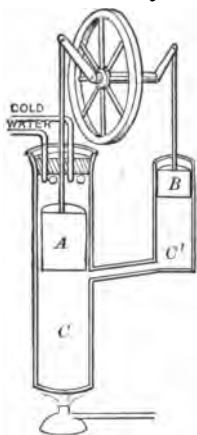

FIG. 158. — Diagram of hot-air engine.
**179. Hot-air engine.** An interesting application of the expansion of gases is the hot-air engine. Its operation can be best understood by studying figure 158. A loosely fitting plunger *A* moves up and down and thus shifts the air back and forth in the cylinder *C*, which is heated at the bottom and kept cool at the top. The working cylinder *C'* has a nicely fitting piston *B*.